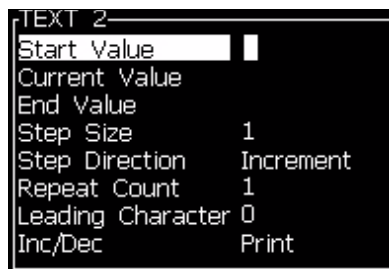

Figure 5-28: New Counter Dialog Box
- 4 Press the *Enter* key to open the counter dialog box for counters (see Figure 5-28).
- 5 Set the values for all the fields in the *Counter Configuration* dialog box (see Figure 5-28).